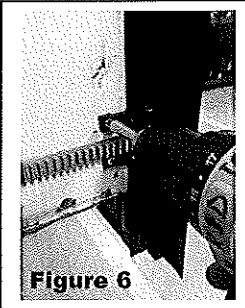

Figure 6
- 3a. Secure each end bracket with four (4) flat head #10 screws (FIG 6, pg 3). A flat head screw must be used.
- 5b. Place the slide mechanism up to the side of the room and secure end brackets with flat head #10 screws (FIG 6, pg 3). A flat head screw must be used.
5. Secure the mounting flanges to the unit's side wall (FIGURE 6, page 3).